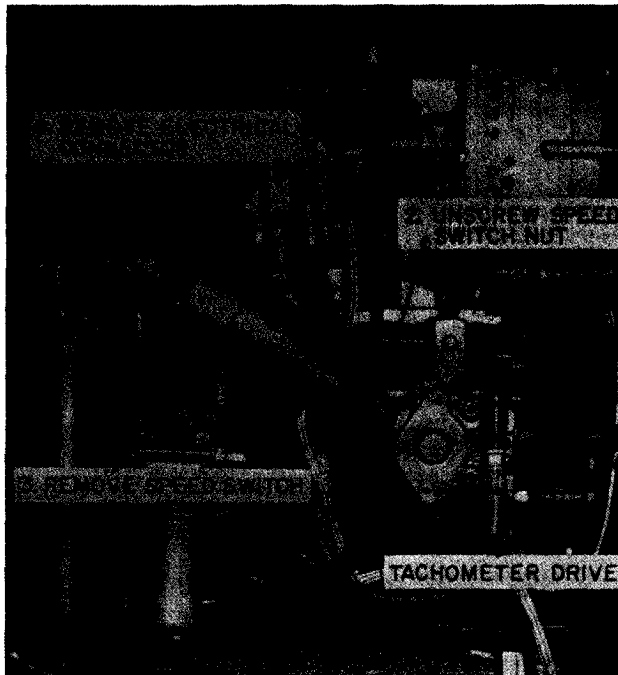

Figure 3-25. Speed switch, removal and installation
b. REMOVAL. Remove speed switch as illustrated in figure 3-25.
d. INSTALLATION. Install speed switch in reverse sequence illustrated in figure 3-25.